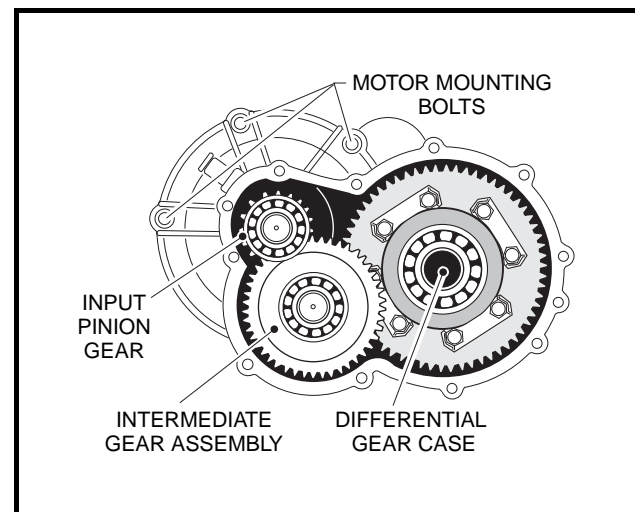
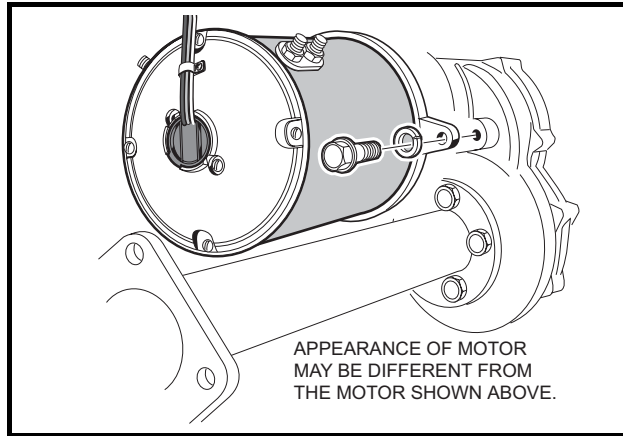

Figure 16-11 Motor Mounting Bolts
Figure 16-12 Motor Positioning Bolt
10. Remove the three motor mounting bolts (**Figure 16-11, Page 16-6**) and the motor positioning bolt (**Figure 16-12, Page 16-7**), mounting the motor to the transaxle. **See following CAUTION.**
4. Press new bearing (16) onto input pinion gear (17).
5. Apply grease to the lip of the new oil seal (10) and install the seal using a transaxle pinion seal tool (CCI P/N 1014161). The lip of the oil seal should face the inside of the transaxle housing. Make sure the seal is firmly seated.
6. Install the differential assembly, the intermediate gear assembly, and the input pinion gear simultaneously. Be sure all bearings are seated properly in the housing. Rotate the input shaft to check for smooth gear operation (Figure 16-11, Page 16-6).